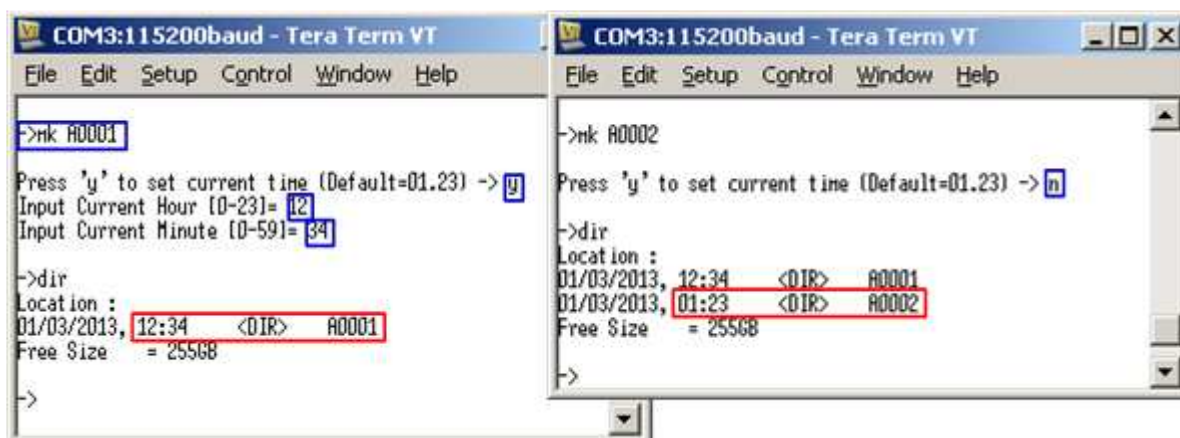

Figure 3-10 MAKE command
- User can select to set time of new file by press 'y'. If press other inputs, it will use default time (01.23), as shown in Figure 3-10.